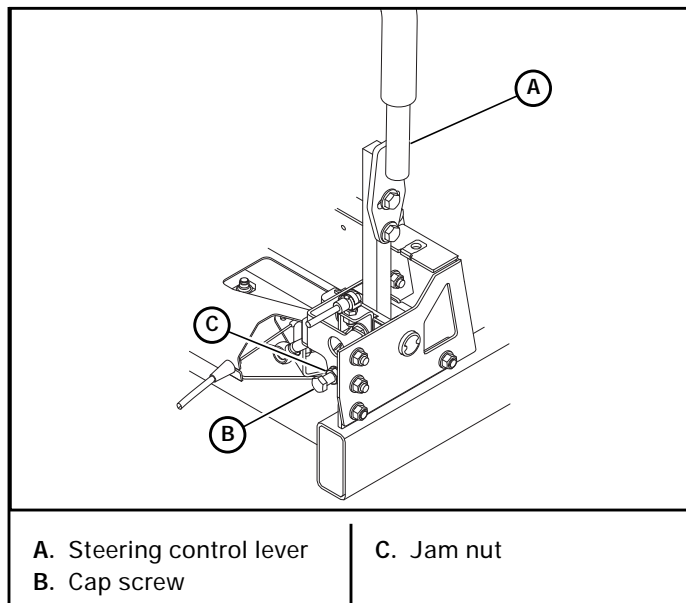

Figure 4-6
5. On the side that is going the slowest, locate the lower cap screw and jam nut on the back side of the steering control lever bracket. Figure 4-6
14. On the side that is going the fastest, locate the lower cap screw and jam nut on the back side of the steering control lever bracket. Figure 4-6